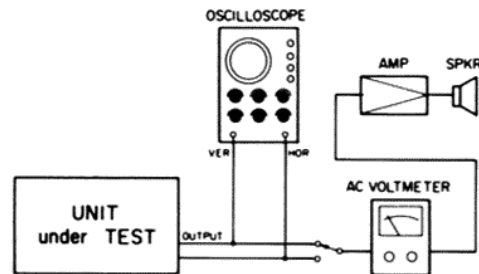

Figure 5-14. Head Alignment Test Connections
1. Connect an AC level meter to the OUTPUT connector of both channels as shown in Figure 5-14.
1. As shown in Figure 5-14, connect the channel 1 output to the vertical input of the oscilloscope, and the channel 2 output to the horizontal input of the scope. Also connect an AC level meter to measure the channels' output levels.